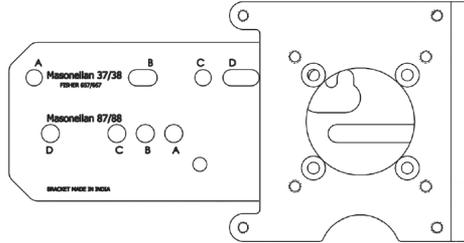

Figure 15 - Reciprocating Valve Mounting Bracket
2. Mount the SVI II AP reciprocating mounting bracket to the actuator using two (2) 5/16 - 18 UNC cap screws. The mounting location of the bracket depends on the size and stroke of the actuator. Refer to Figure 15 on page 30 and Figure 4 on page 14.
11. Adjust the turnbuckle until the hole in the SVI II AP lever is aligned with the indicating hole in the bracket. Tighten both turnbuckle lock nuts. Refer to Figure 15.